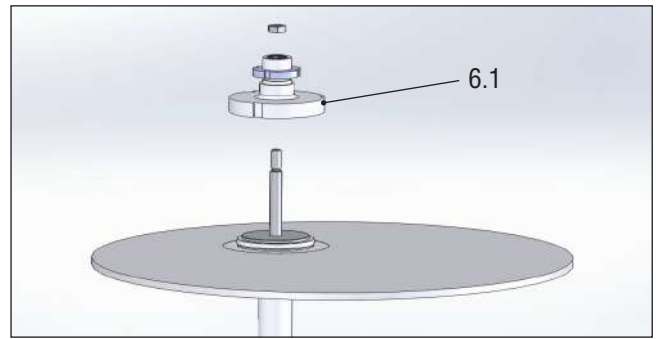

Figure 6: Bonnet
- 3.1.2 Remove bonnet (figure 6)